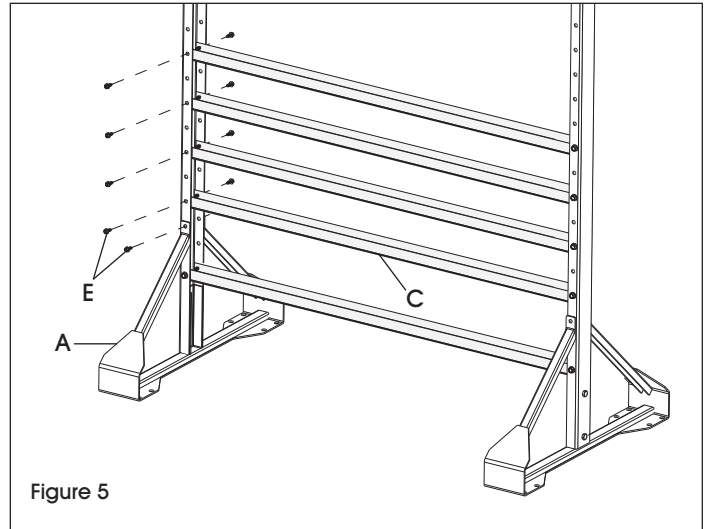

Figure 5
Attach a crossbar (C) to the fourth hole up from the bottom using #14 sheet metal screws (E). Skip every other hole, attach the remaining 11 cross bars with sheet metal screws. (See Figure 5)
**NOTE:** Attach each base assembly (A) to the third hole up using #14 sheet metal screws (E). (See Figure 5)